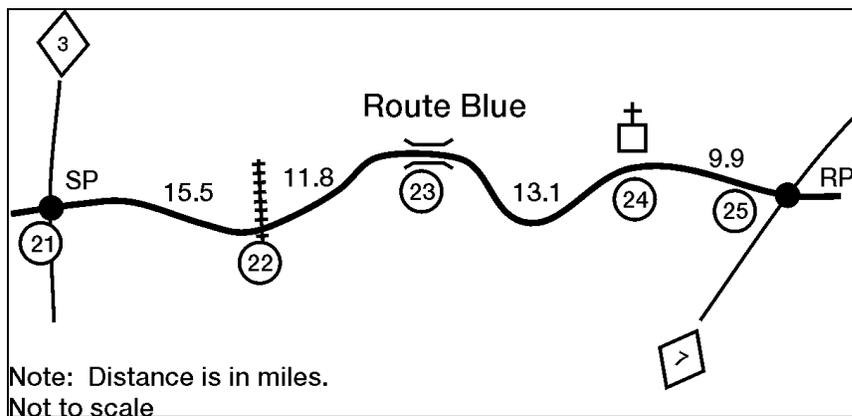

Figure 3-84. Single Route Strip Map
- (1) A strip map may be prepared from a route overlay, a route reconnaissance report, or a map reconnaissance. It is drawn on a standard sheet of paper to give the user the necessary information to reach his destination.
- (2) A strip map is generally distributed to squad leaders, convoy commanders, drivers, or route guides and normally shows only one route (see Figure 3-84).